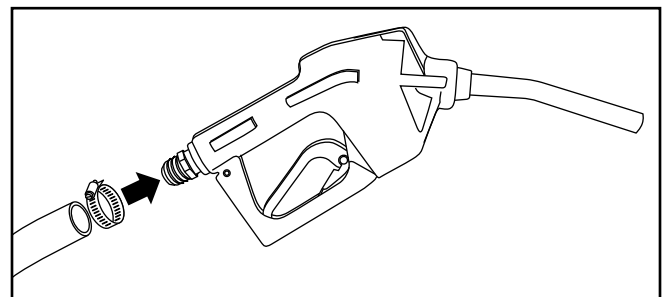

Figure 5: Installing the Hose on the Nozzle
5. Slide the hose over nozzle hose barb. Fasten hose securely to hose barb with enclosed hose clamp (see Figure 5).